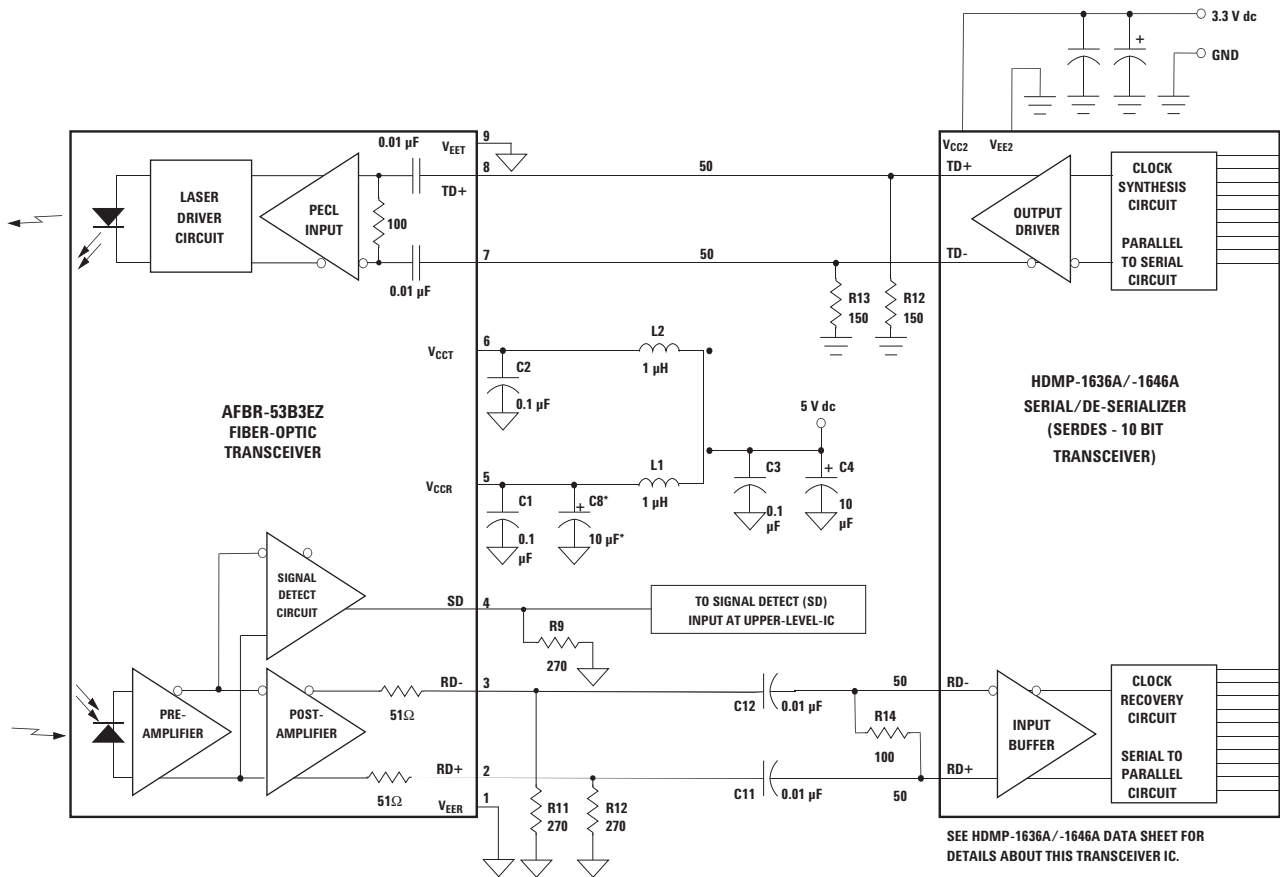

**Figure 1. Transmitter optical eye diagram mask.**
- Laser transmitter pulse response characteristics are specified by an eye diagram (Figure 1). The characteristics include rise time, fall time, pulse overshoot, pulse undershoot, and ringing, all of which are controlled to prevent excessive degradation of the receiver sensitivity. These parameters are specified by the referenced Gigabit Ethernet eye diagram using the required filter. The output optical waveform complies with the requirements of the eye mask discussed in section 38.6.5 and Fig. 38-2 of IEEE 802.3z.